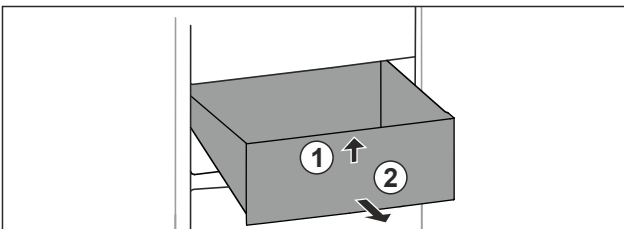

Fig. 90
- ▶ Lift up drawer at the front. Fig. 90 (1)
- ▶ Remove drawer to the front. Fig. 90 (2)